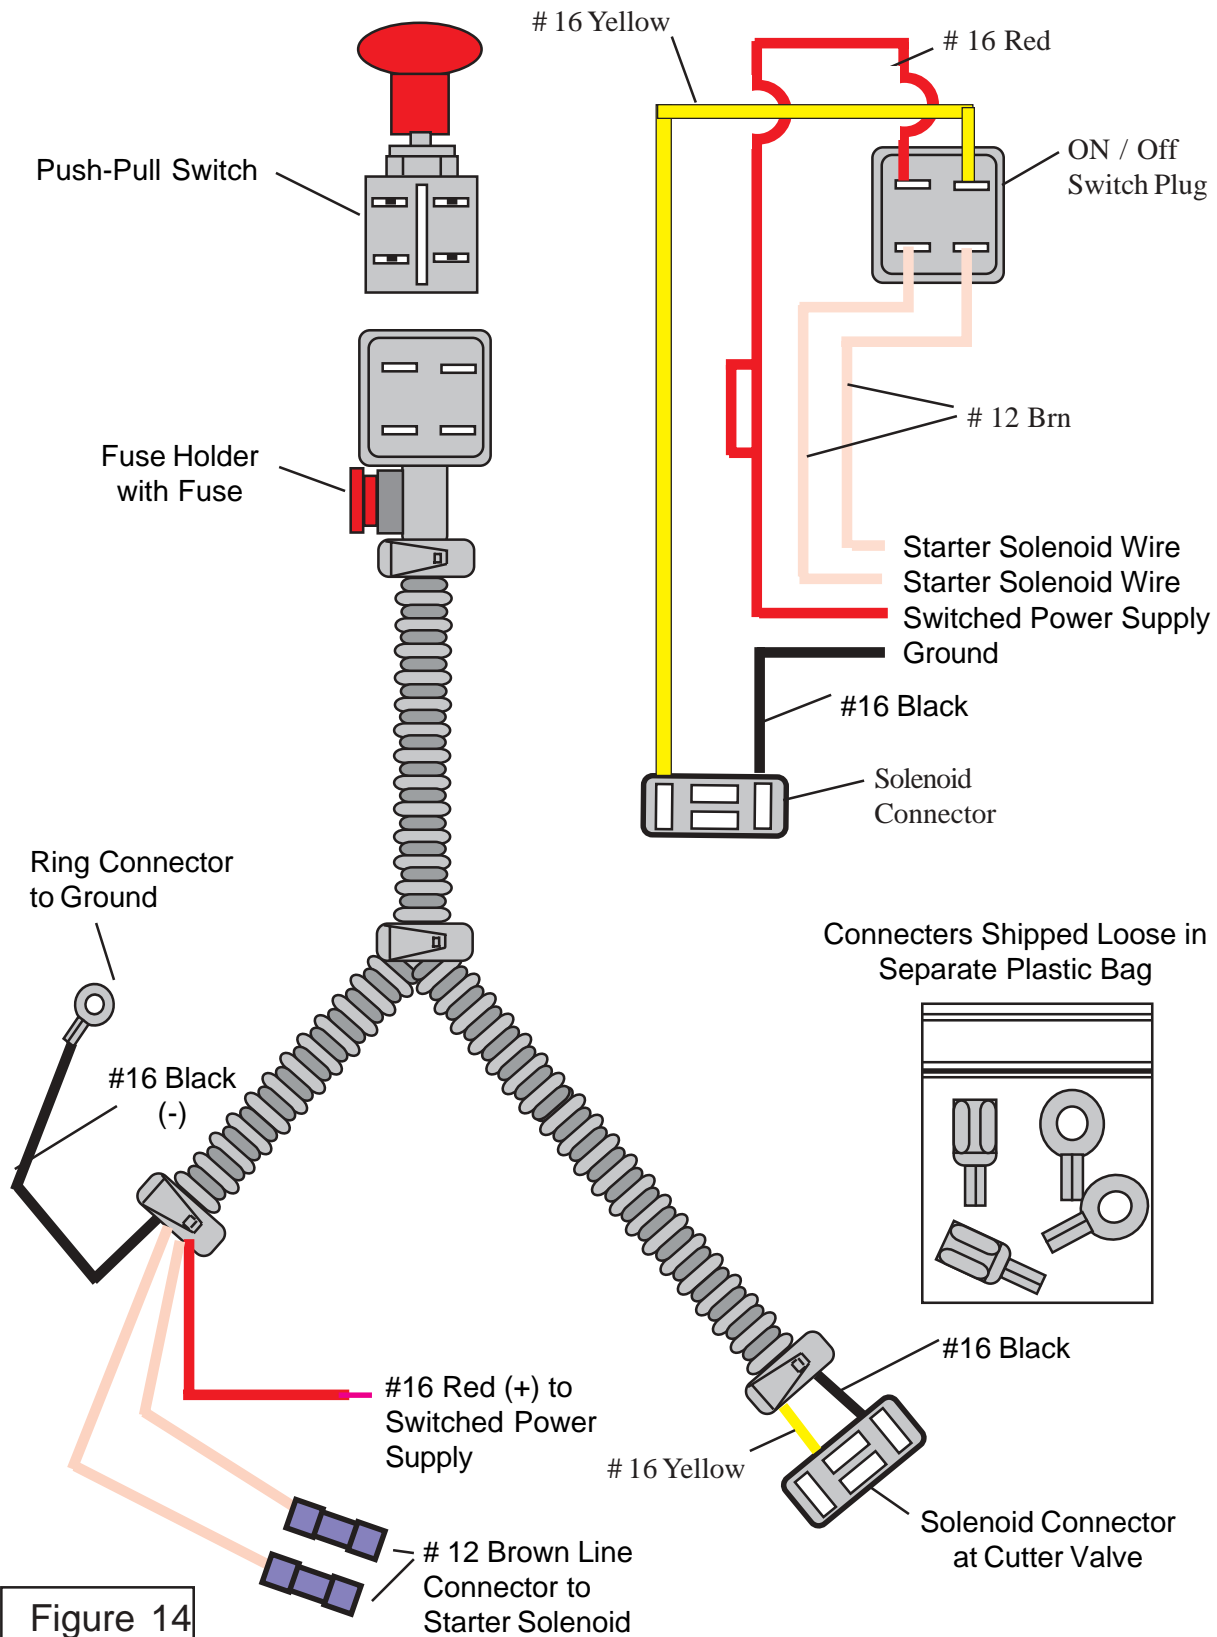

Figure 14
2. Wire Harness Schematic. The wiring harness schematic list the plug, wire type, wire color, and where the wires connect. The wire harness will be shipped complete. The wire harness will need to be connected correctly or it will not function properly. DO NOT operate any unit that is not functioning correctly (See Figure 14).
3. Connect Starter Solenoid Wires. The starter solenoid wire are the two brown wires. The tractor solenoid activation wire will need to be cut and rerouted through these two brown wires. Connect the two wires at the starter solenoid (See Figure 14 & 15)